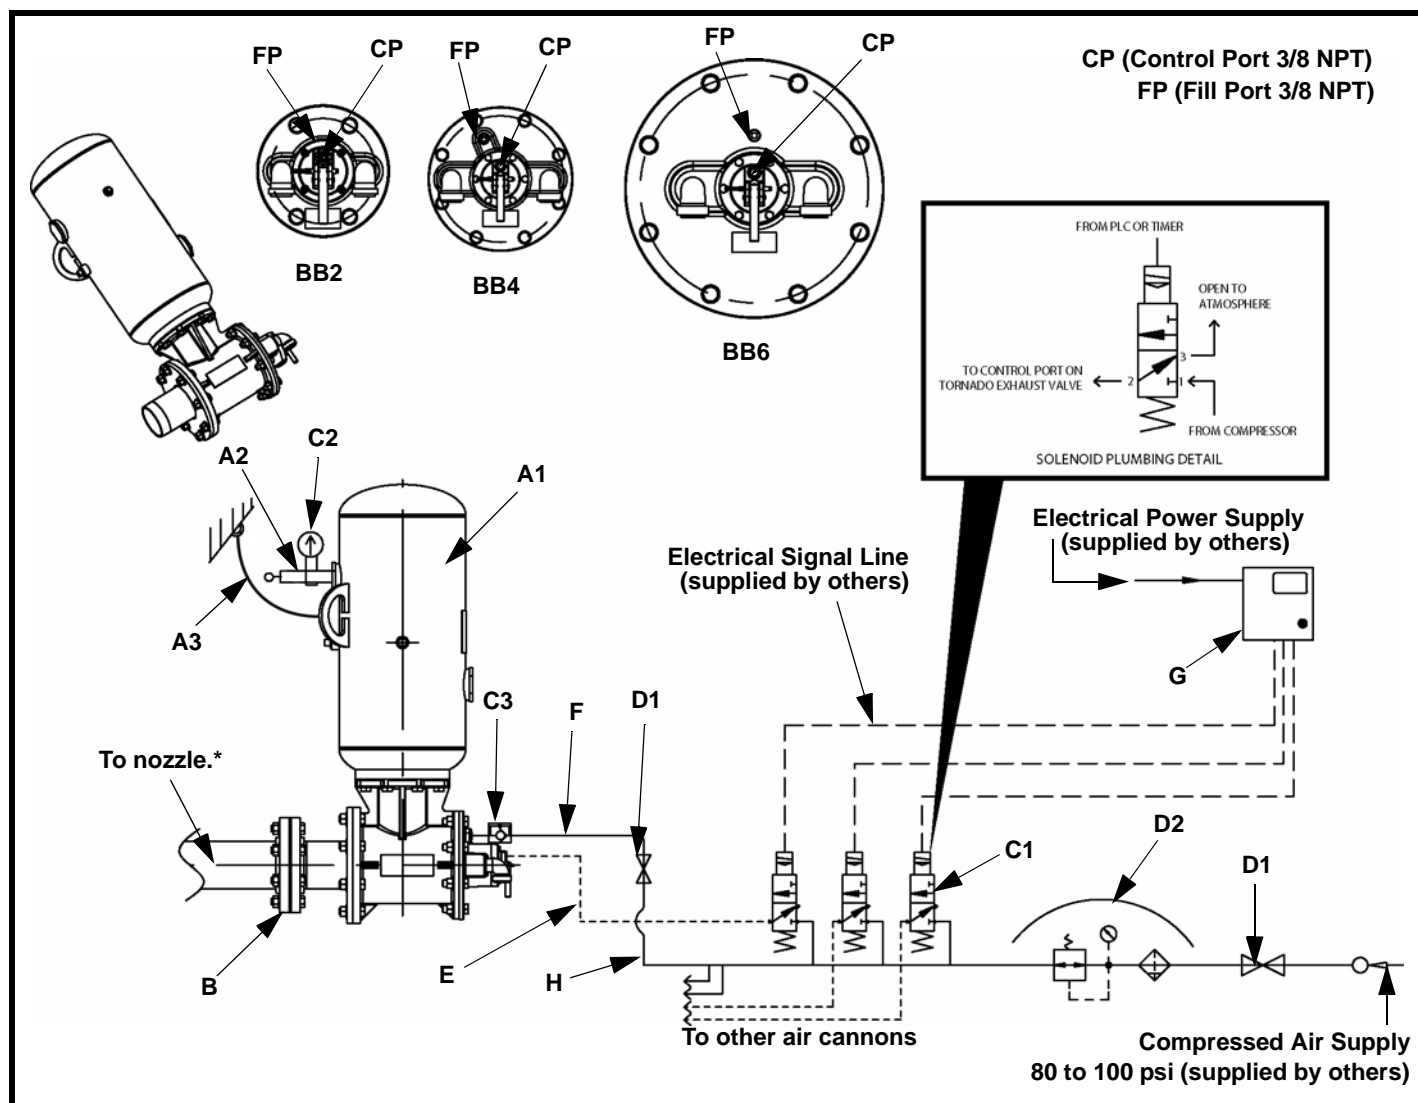

Figure 13. Plumbing Detail for Normally-Closed Solenoid Valve
- b. If using a normally-closed solenoid valve, connect the 3-way electric solenoid valve outlet port (2) to exhaust valve control port. See Figure 13.